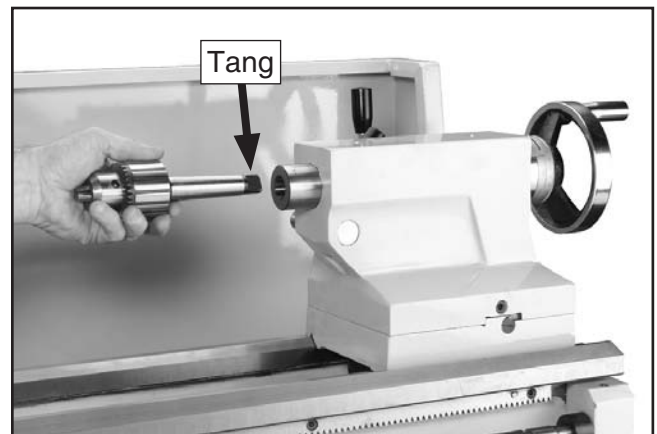

Figure 43. Inserting an MT#3 drill chuck into the tailstock quill.
- Insert the drill chuck arbor or drill shank into the quill, as shown in **Figures 43–44**, then lightly tap the tool with a wood block until it is firmly seated.